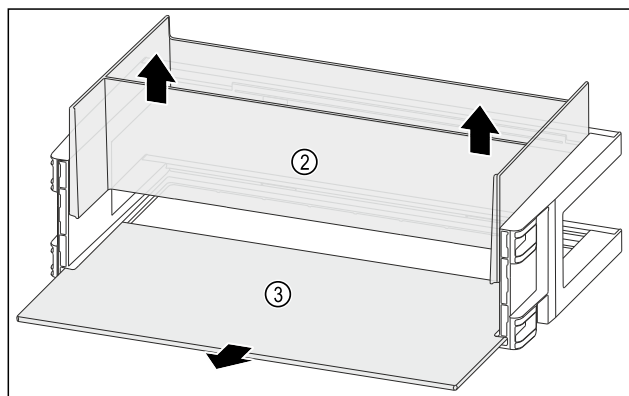

Fig. 132
- Izvadite organizator Fig. 132 (2) prema gore.
- Izvadite policu Fig. 132 (3).